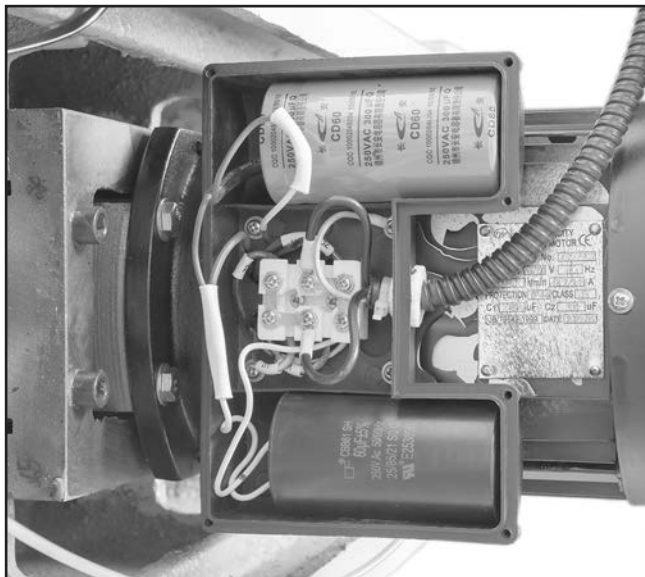

Figure 10. Motor pre-wired for 110V.
9. Open motor junction box (see **Figure 10**).